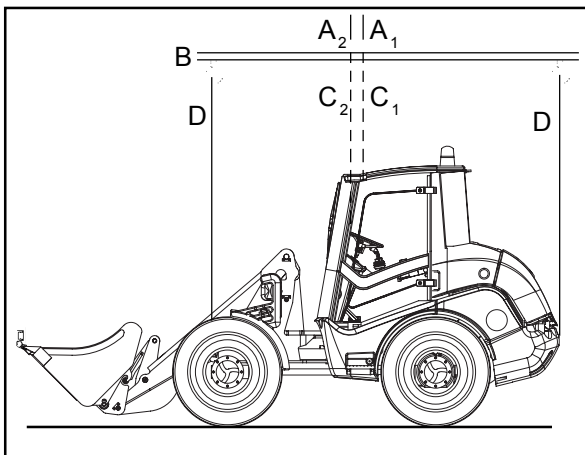

Figure 7-8
- The following items must be observed when lifting the loader by crane (Figure 7-8):
- The lifting point (A_1 - loader without standard bucket or A_2 - loader with standard bucket) of the lifting device (B) must be precisely vertically over the centre of gravity (C_1 or C_2) of the loader so that the lifting device is **horizontally** above the longitudinal centre axis of the loader.
- The lifting gear (D) must lead vertically upwards from the lifting points of the loader (7-6/arrows and 7-7/arrows).